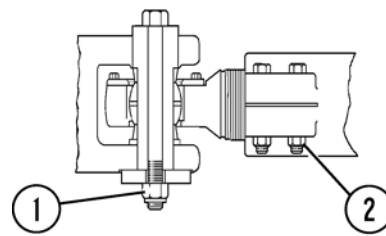

FIGURE 40-8.
7.	<p>STEERING LINKAGE</p> <p>a. Check the torque on the steering pin retaining nuts (1, Figure 40-8). Tighten to 712 N•m (525 ft lbs).</p> <p>b. Check the torque on the tie rod retaining nuts (2). Tighten to 420 N•m (310 ft lbs).</p>